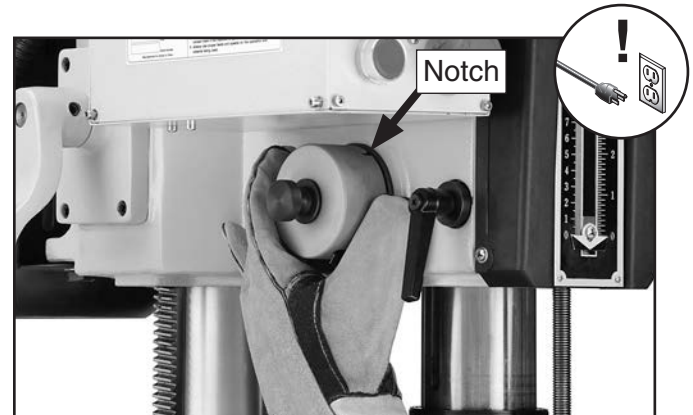

Figure 35. Adjusting spring tension by rotating spring cover to engage next notch with roll pin.
4. Wearing gloves, pull spring cover (**Figure 35**) out enough so notches just clear roll pin. HOLD SPRING COVER TIGHTLY during this step, or force of spring will cause cover to spin out of your hands.
5. Rotate cover counterclockwise to increase tension, then push cover back in to engage roll pin with one of the notches, as shown in **Figure 35**.